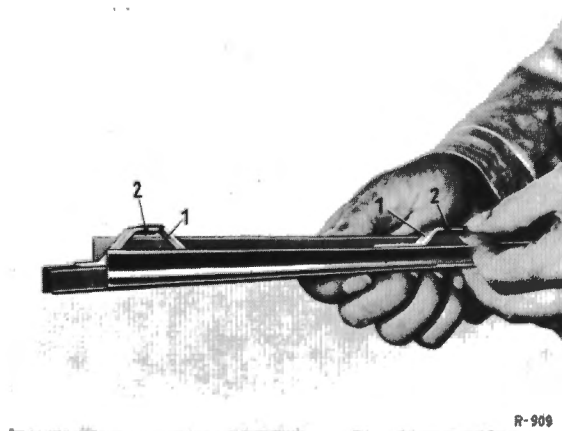

Fig. 72-15/3
8. Put a clip-on nut (2) on each of the two fixing straps (1) of the rear garnish molding (Fig. 72-15/3).
9. Insert the rear garnish molding (Fig. 72-15/1).